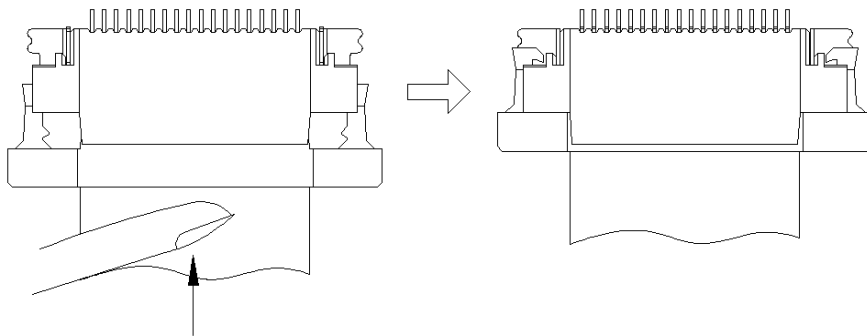

Figure 4.
- 3) Push the actuator(Lock) until firmly closed. It is critical that the inserted FPC is not moved and remains fully inserted. Should the FPC be moved, open the actuator(Lock) and repeat the process, starting with Step 1(see figure 4).